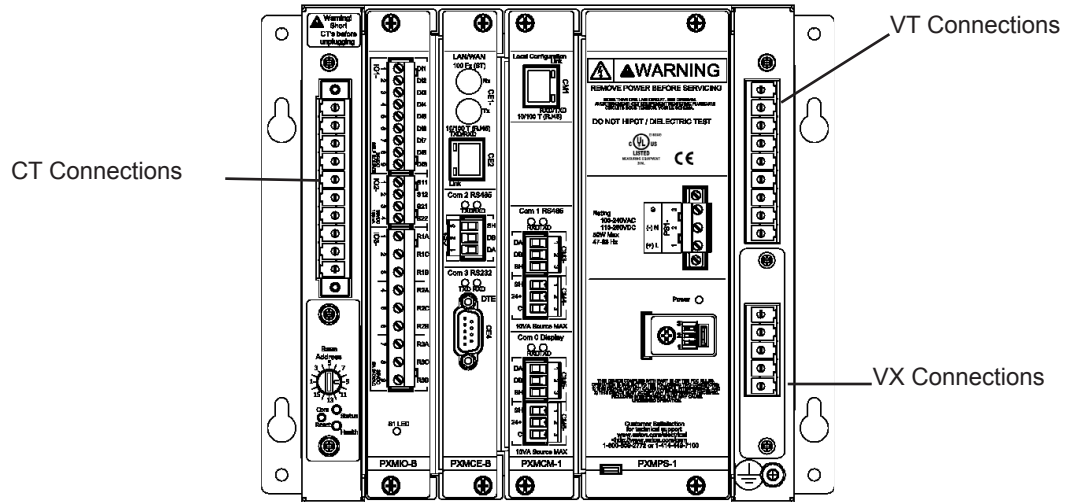

Figure 3: CT & VT Connections
3. Planning CT and VT Connections (Figure 3)